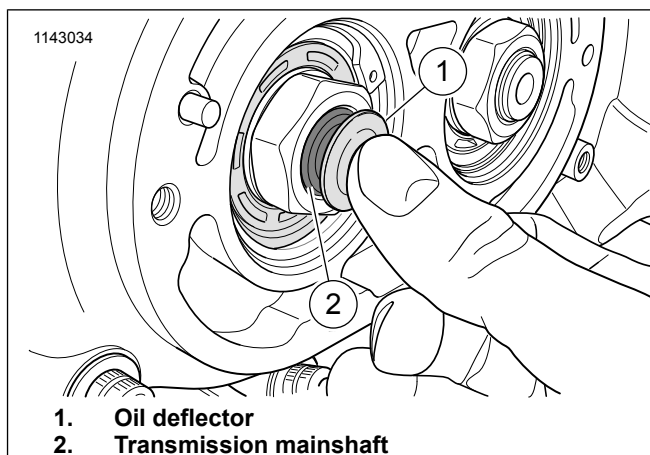

Figure 8. Removal of Oil Deflector
6. See Figure 8. **2019 Models:** Remove oil deflector (1).